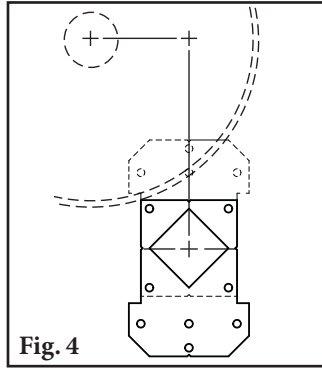

Fig. 4
- Locate offset bracket position.** To locate the position of the offset bracket, position offset bracket template with the large cutout and notches aligned with the layout lines on the chute wall (Fig. 4). The template can be used with the bracket holes either below or above the Y mark.